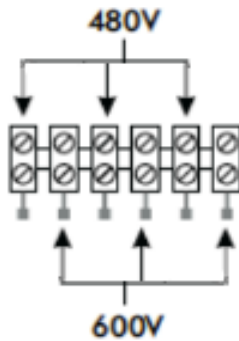

Figure 12: Image of AC input terminal strip and arrows indicating where the 3 wires will be plugged into (either 480V or 600V terminals).
4. Check the 3 wires on the AC input terminal strip are plugged into the correct terminals identical to your AC power supply voltage (either 480V or 600V terminals) (Figure 12).